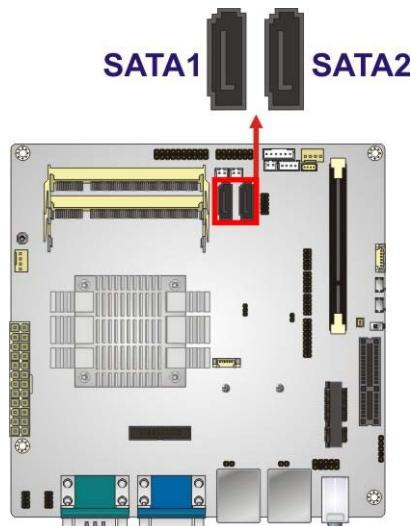

Figure 3-20: SATA 3Gb/s Drive Connector Locations
**CN Location:** See **Figure 3-20**